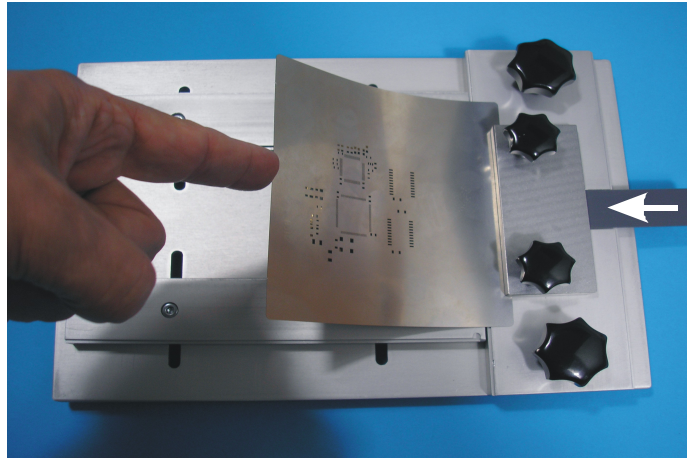

Fig. 7
- 15) Push the circuit board with the slider E away from the clamping plate F under the stencil (Fig. 7).